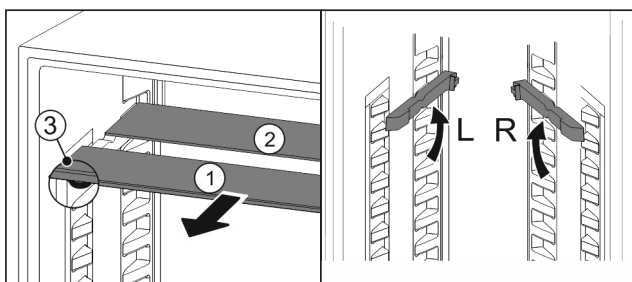

Fig. 112
- Pull the glass panels out Fig. 112 (1) from the front, one at a time.
- The glass panel Fig. 112 (1) with the trim strip is at the front.
- The stops Fig. 112 (3) point downward.